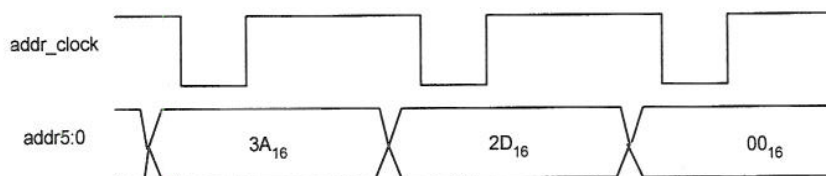

Figure 2.2
c) Given that the timing diagram for the input signals  $\text{addr\_clock}$  and  $\text{addr}[5:0]$  are as shown in *Figure 2.2*, draw the timing diagram for the signals at X and Y. Label your timing diagram with the following four possible signal states: driven low (DL), driven high (DH), charged low (CL) and charged high (CH).